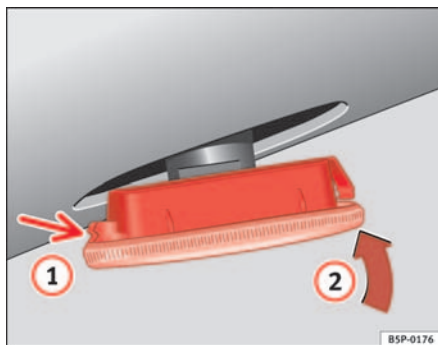

Fig. 186 Side turn indicator
- First place the indicator in the opening in the bodywork, fixing the tabs ⇒ fig. 186, arrow ①.
- Insert the lamp as shown by the arrow ② ⇒ fig. 186 ■